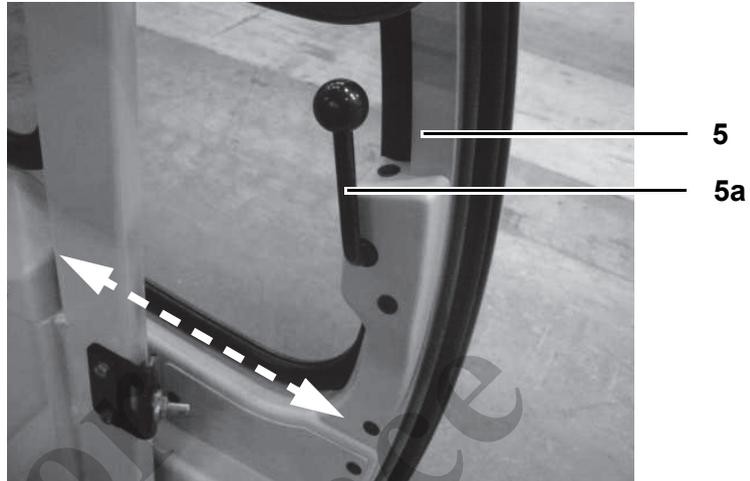

Fig. 49 Locking mechanism of the cab door
The sliding door (5) in Fig. 49 can be held open with a catch on the side panel of the cab. Pulling on the release lever (5a) in Fig. 49 on the inside of the door releases the locking mechanism.